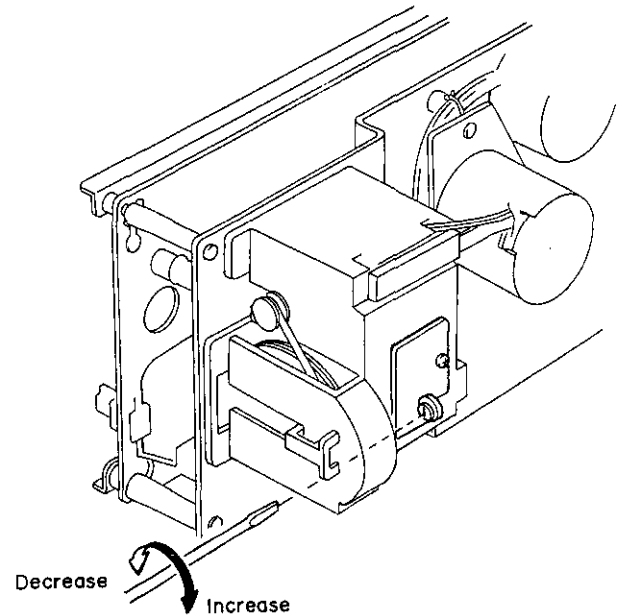

Fig. 4.3
- (1) Remove the Top Cover Ass'y referring to item 2.2.
- (2) Connect a Frequency Counter to the Output Jack.
- (3) Load a 3 kHz Speed Wow/Flutter Tape (DA09006A) and play it back.
- (4) Referring to Fig. 4.3, adjust the Tape Speed Adjustment Volume VR501 on the Speed Cal. P.C.B. Ass'y to obtain 3,000 Hz on the Frequency Counter.